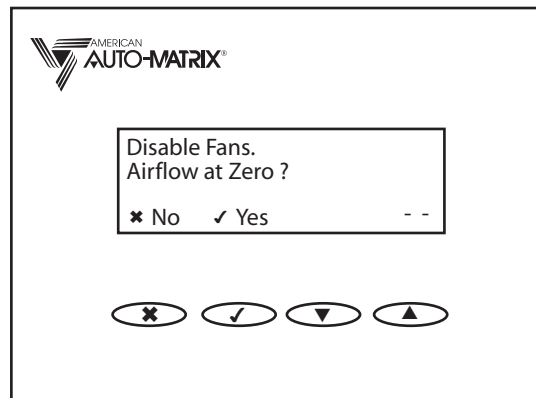

Figure 3-14 Zero CFM Calibration screen
4. Select the **Zero CFM Cal** option. You will see a screen similar to the one shown in Figure 3-14.